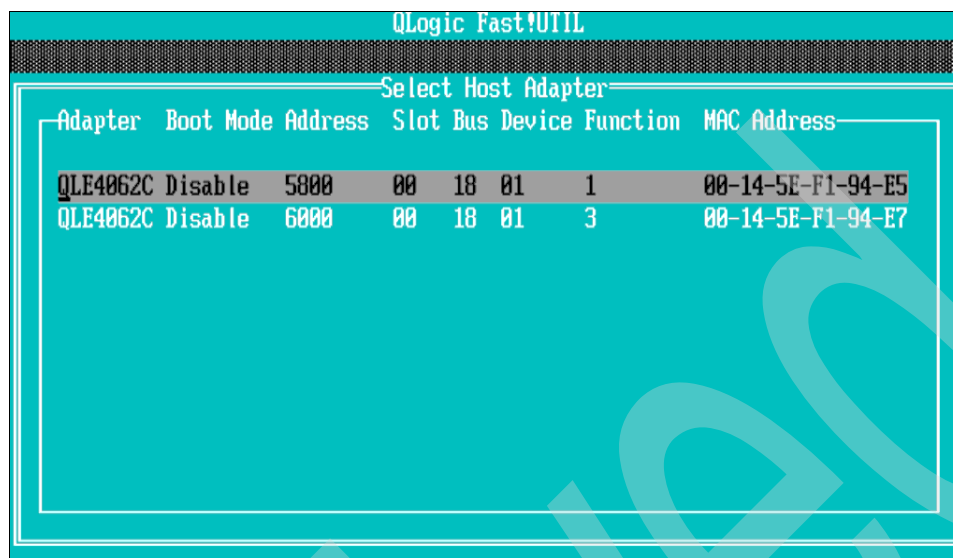

Figure 5-59 QLogic Fast!UTIL menu window
- After pressing the Ctrl+Q keys, you enter the QLogic iSCSI Card BIOS utility. You see a window similar to Figure 5-59.